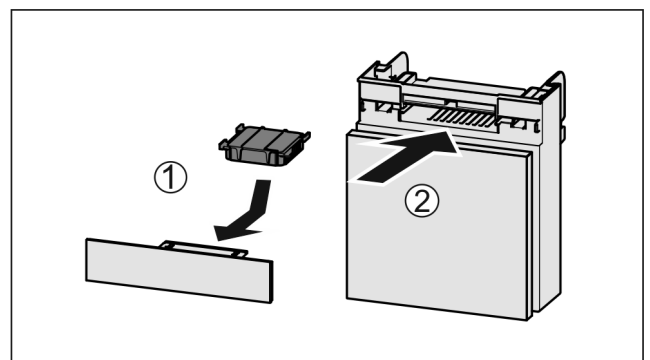

Fig. 186
- Insert the carbon filter as shown in the diagram Fig. 186 (1).
- Push the compartment in Fig. 186 (2).